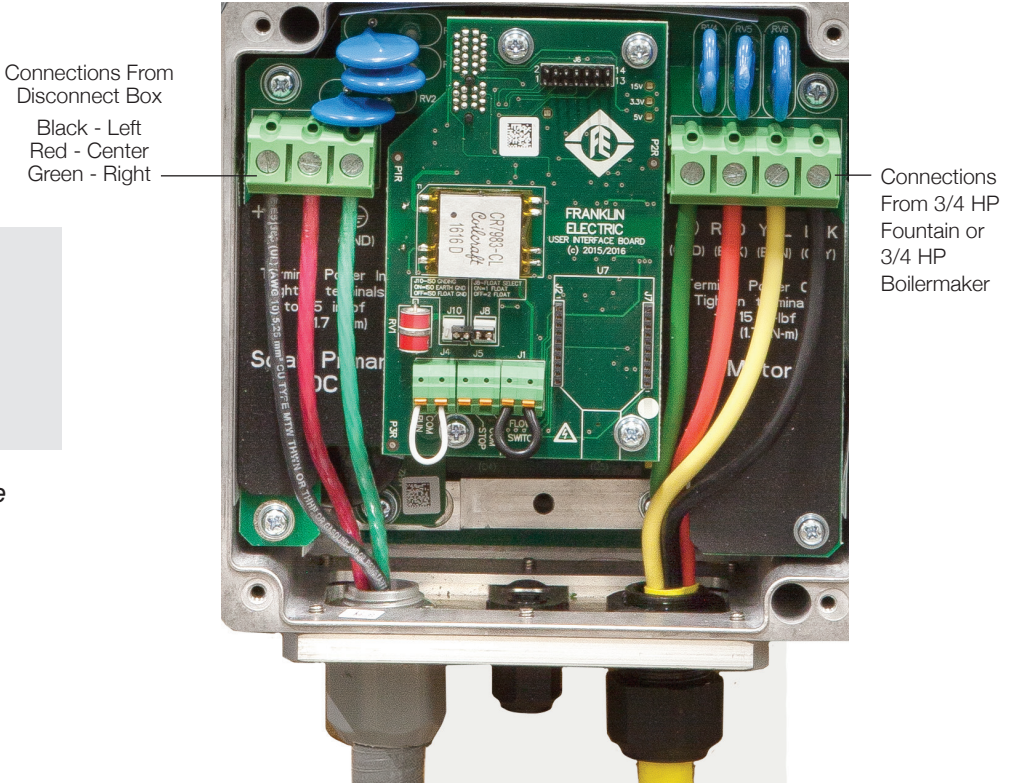

Figure 11-3 Photon Drive Connections
- Feed wire through the squeeze-tight connector supplied with the Photon Drive. Insert power cable sheathing flush with top of connector for a water tight fit. Secure motor power supply connections as shown in figure 11-3.